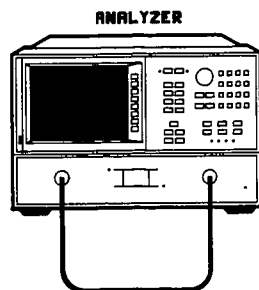

Figure 5. ADC Linearity Correction Constants Setup
2. At the prompt, connect the RF cable (the thru) between ports 1 and 2 (see Figure 5) and press **[CONTINUE]**.
2. Connect the RF cable between ports 1 and 2 (see Figure 5). Press **[YES]** at the query to alter the correction constants.